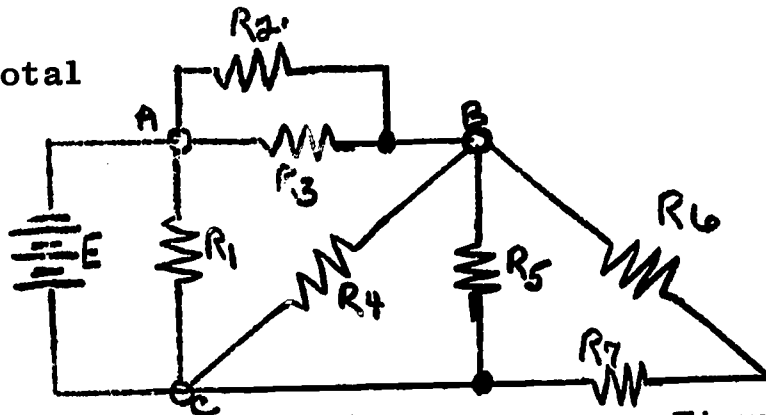

Figure 3
*In Fig. 3, calculate the total resistance of the circuit.
*In Fig. 3, calculate the current through R1.
In Fig. 3, calculate the power dissipated in R4.
*In Fig. 3, calculate the total power dissipated by the circuit.